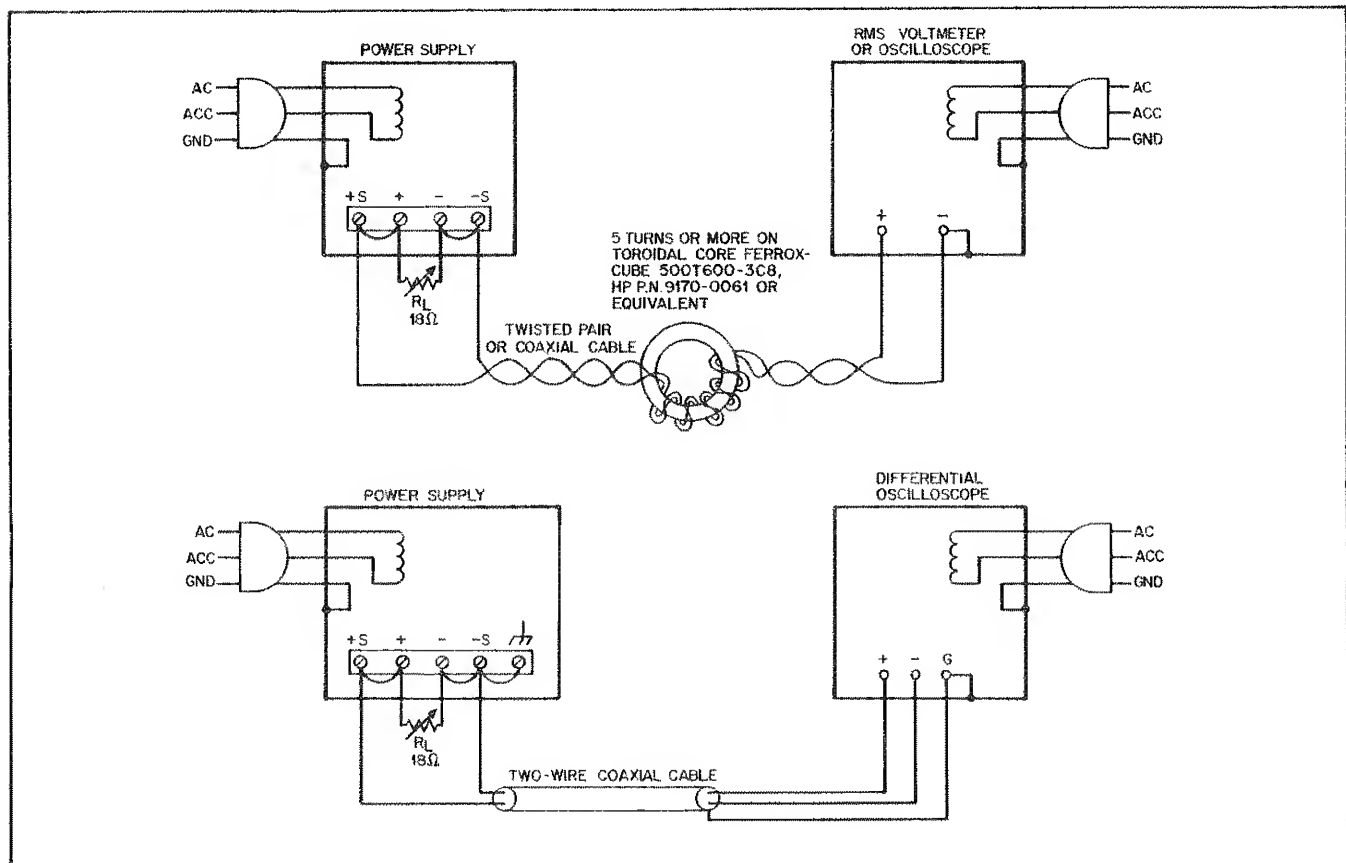

Figure 5-3. Constant-Voltage Ripple Test Setup
- Connect one of the test setups shown in Figure 5-3.